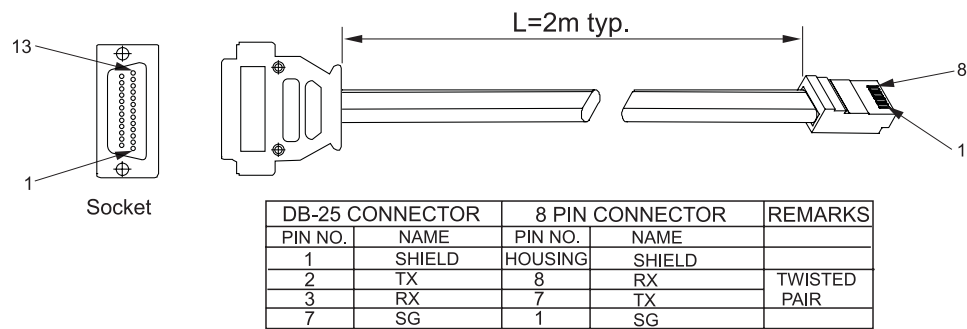

Fig.7-2: RS232 cable with DB25 connector (P/N: GEN/232-25)
- 2. Connect rear panel IN connector to the controller RS232 or RS485 port using a suitable shielded cable. Refer to Figures 7-2, 7-3 and 7-4 for available RS232 and RS485 cables.